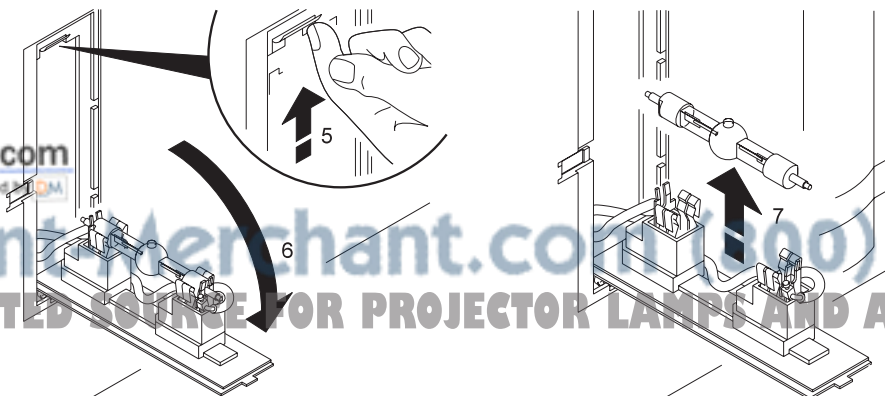

Figure 6-2. Lower Lamp Assembly
8. Press the tab (5) to release the lamp assembly (see figure 6-2).
9. Carefully lower the lamp assembly (6) to access the metal halide lamp.
10. The lamp is double ended with sockets on both sides. Carefully pull upward on both ends of the lamp (7) to remove it.